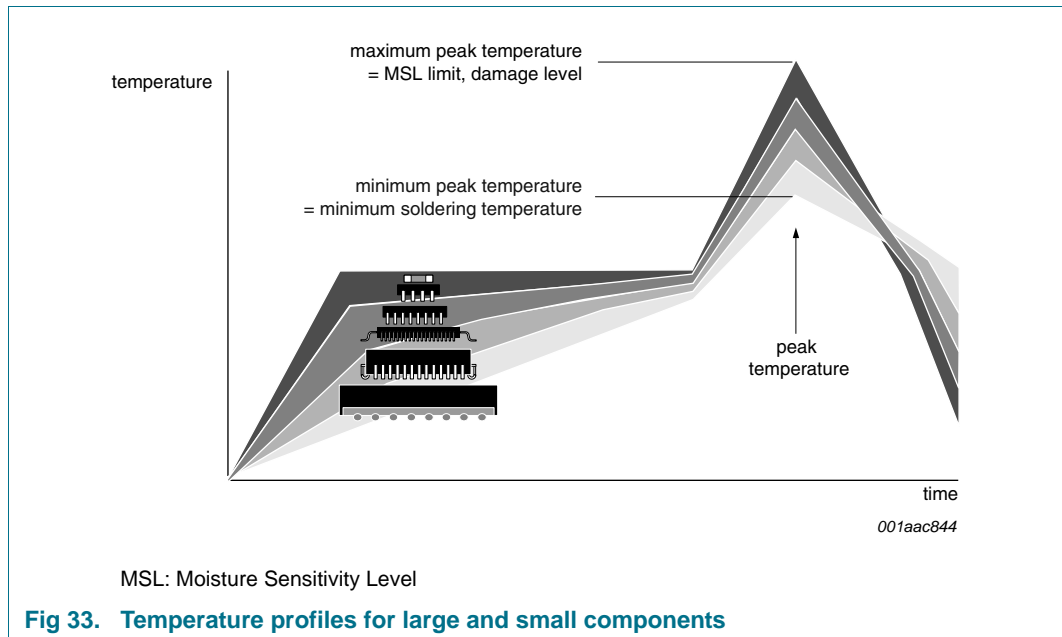

Fig 33. Temperature profiles for large and small components
- Lead-free versus SnPb soldering; note that a lead-free reflow process usually leads to higher minimum peak temperatures (see Figure 33) than a SnPb process, thus reducing the process window
Studies have shown that small packages reach higher temperatures during reflow soldering, see Figure 33.